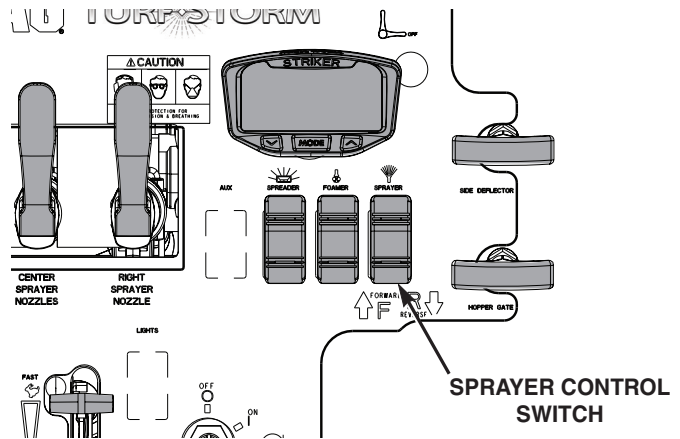

Figure 4-11. Sprayer Engage Switch
5. Engage the sprayer switch to turn the sprayer on. See Figure 4-11. Sprayer pressure may change as sprayer engages, adjust pressure as needed.